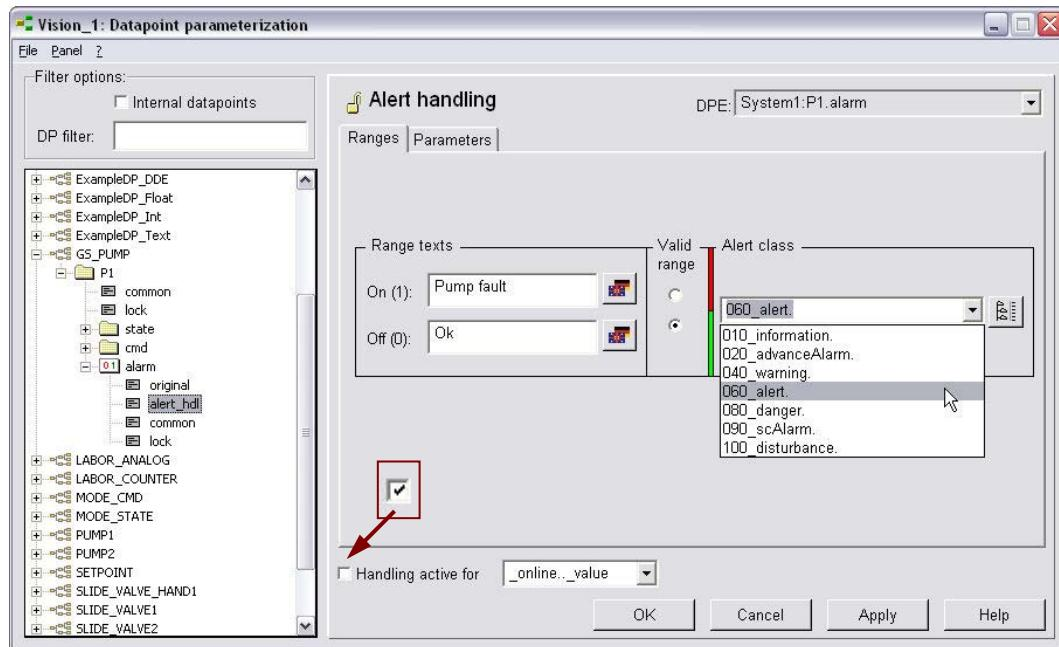

Fig. 5.14
4. Make the settings shown in Fig. 5.14
- b. Under **Range texts** enter “Pump fault” for the Alert range (1) and **OK** for the Good range.
Attempts to enter values **outside the enclosed range** [0 to 100] in the original-value dialog box of the speed element **now fail**. If the value for the **P1.alarm** element is set to 1/TRUE, the alert state is displayed in the Alert text field of the original-value view. The alert state colour is also displayed in the Alert handling parameterization window (Fig. 5.14).